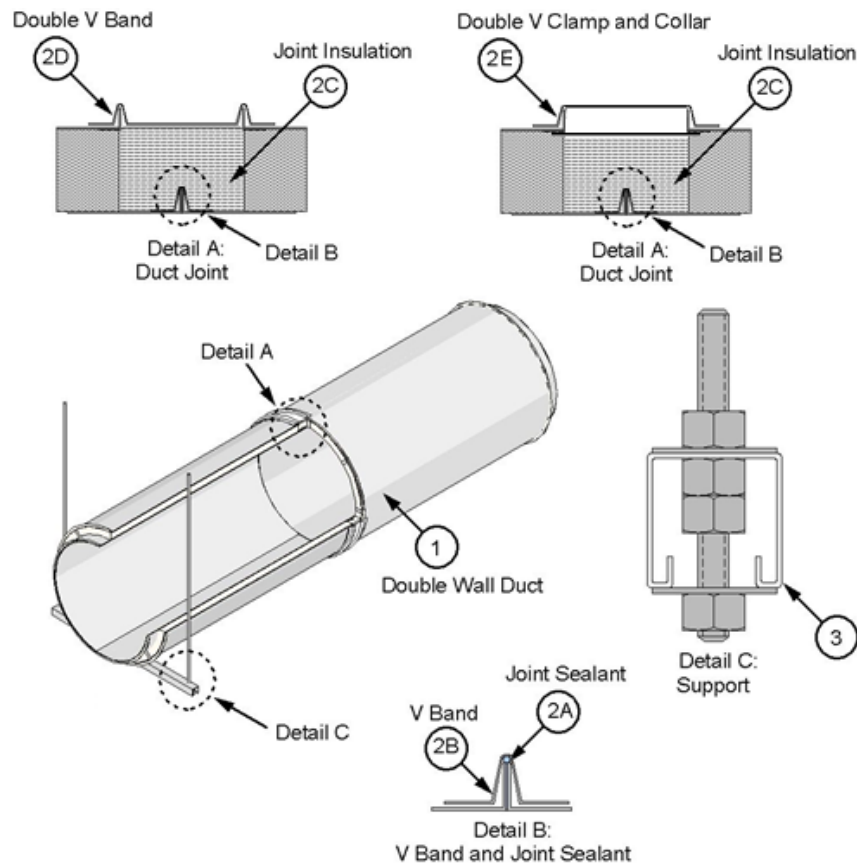

Figure 1. Double Wall Duct and Horizontal Support
- B. **V BAND** – Use the supplied V band (see Figure 1). Place the loose V band, filled with joint sealant (Item 2A), over one of the inner duct flanges. Join to the other inner duct flange with the continuous bead of joint sealant (Item 2A) and rotate slightly to ensure complete coverage of joint sealant (Item 2A) on flanges. Ensure that the flanges are located within the V band and that the V band hardware is not at the bottom side of a horizontal duct. Tap the V band while tightening the integral 1/4-20 hardware to ensure flanges are aligned and pulled together. Tighten to 40-60 in.lbs.
- D. **DOUBLE V BAND** – Use the supplied double V band (see Figure 1) for grease duct diameters ≤ 24 in. Place double V band with the grease duct outer shell flanges seated in the V band; tighten integral 1/4-20 hardware to 40-60 in.lbs.
- E. **DOUBLE V CLAMP AND COLLAR** – Use the supplied double V clamp and collar (see Figure 1) for grease duct diameters > 24 in. Use the sheet metal collar to retain the joint insulation; overlap collar ends and fasten together with min. two min. size #6 sheet metal screws. Place double V clamp with the grease duct outer shell flanges seated within the clamp recess; tighten integral 1/4-20 hardware to 40-60 in.lbs.
washers (see Figure 1, Detail C). For grease duct diameters > 24-in., use supplied 12-GA steel saddles fastened to the Unistrut® channels with supplied 5/16-18 hardware. Connect the threaded steel rods to the bottom of the floor assembly using an attachment method designed to carry the weight of the pre-fabricated grease duct (Item 1) under a fire load equivalent to ISO 834 time-temperature curve for a 2 hour period. Place one threaded steel rod at each end of the supporting cross-member. Center the pre-fabricated grease duct (Item 1) on the cross-member. Space the threaded steel rods a max. of 8 in. from surface of the pre-fabricated grease duct (Item 1). Cut the cross-members such that each extends a min. 1-1/2 in. past the threaded steel rods. Space horizontal supports a max. of 84 in. on center (oc) for ducts with nominal diameter ≤ 16 in., and a max. of 60 in. oc for nominal 18 in. to 36 in. diameter ducts.